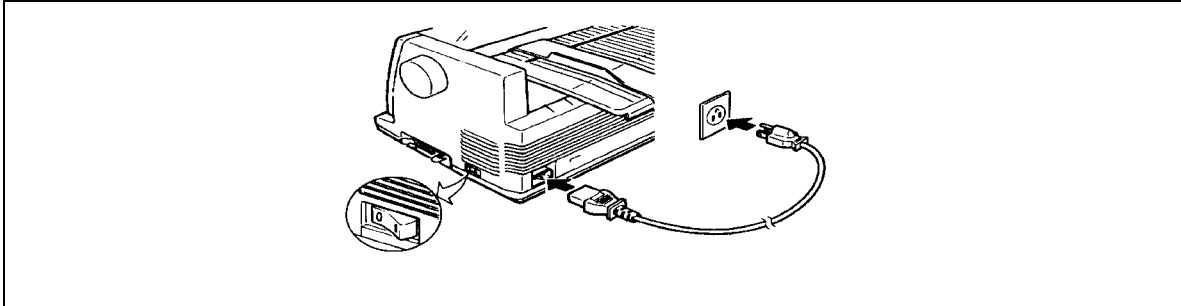

Figure 3-21. Connecting the Power Cord.
- (5) Plug the power cord into the printer as depicted in figure 3-21.